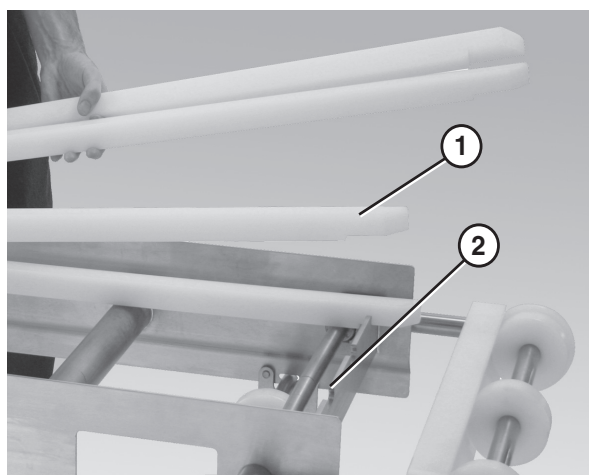

Figure 33
1. Position the wear strips (**Figure 33, item 1**) on the frame.
2. Make sure the wear strips are situated securely in the frame slots (**Figure 33, item 2**).